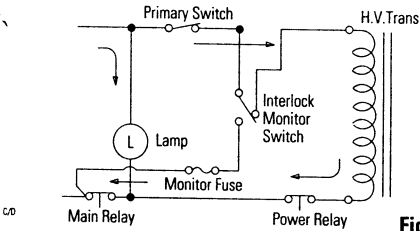
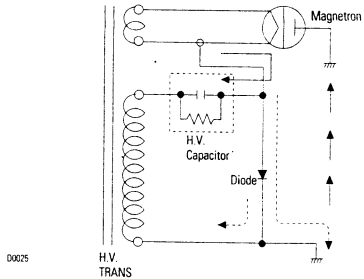

Fig. 1
Fig. 2
- (C) 230V-50Hz AC is applied to the high voltage transformer through the contacts of primary windings as shown by the solid line just after the power control relay turns ON. (Fig. 1)
- (D) 3.4V AC is generated from the filament winding of the high voltage transformer. This 3.4V is applied to the magnetron to heat the magnetron filament through two noise preventing choke coils.
- (E) High voltage of 2,230 volts AC is generated from the high voltage transformer secondary and this secondary voltage is increased by the action of the diode and the charging of the high voltage capacitor. This resultant D.C. voltage is then applied to the anode of the magnetron. As shown in the Fig. 2, the first half cycle of the high voltage produced in the secondary high voltage transformer charges the high voltage capacitor. The dotted lines indicate the current flow. During operation of the second half cycle, the voltage produced by the transformer secondary and the charge of the high voltage capacitor are combined and applied to the magnetron as shown in the solid line so that magnetron starts to oscillate. The interference wave generated from the magnetron is prevented by the 1.6uH choke coils, 500pF filter capacitors and the magnetron's shielded case so that TV and radio signals are not interfered with.